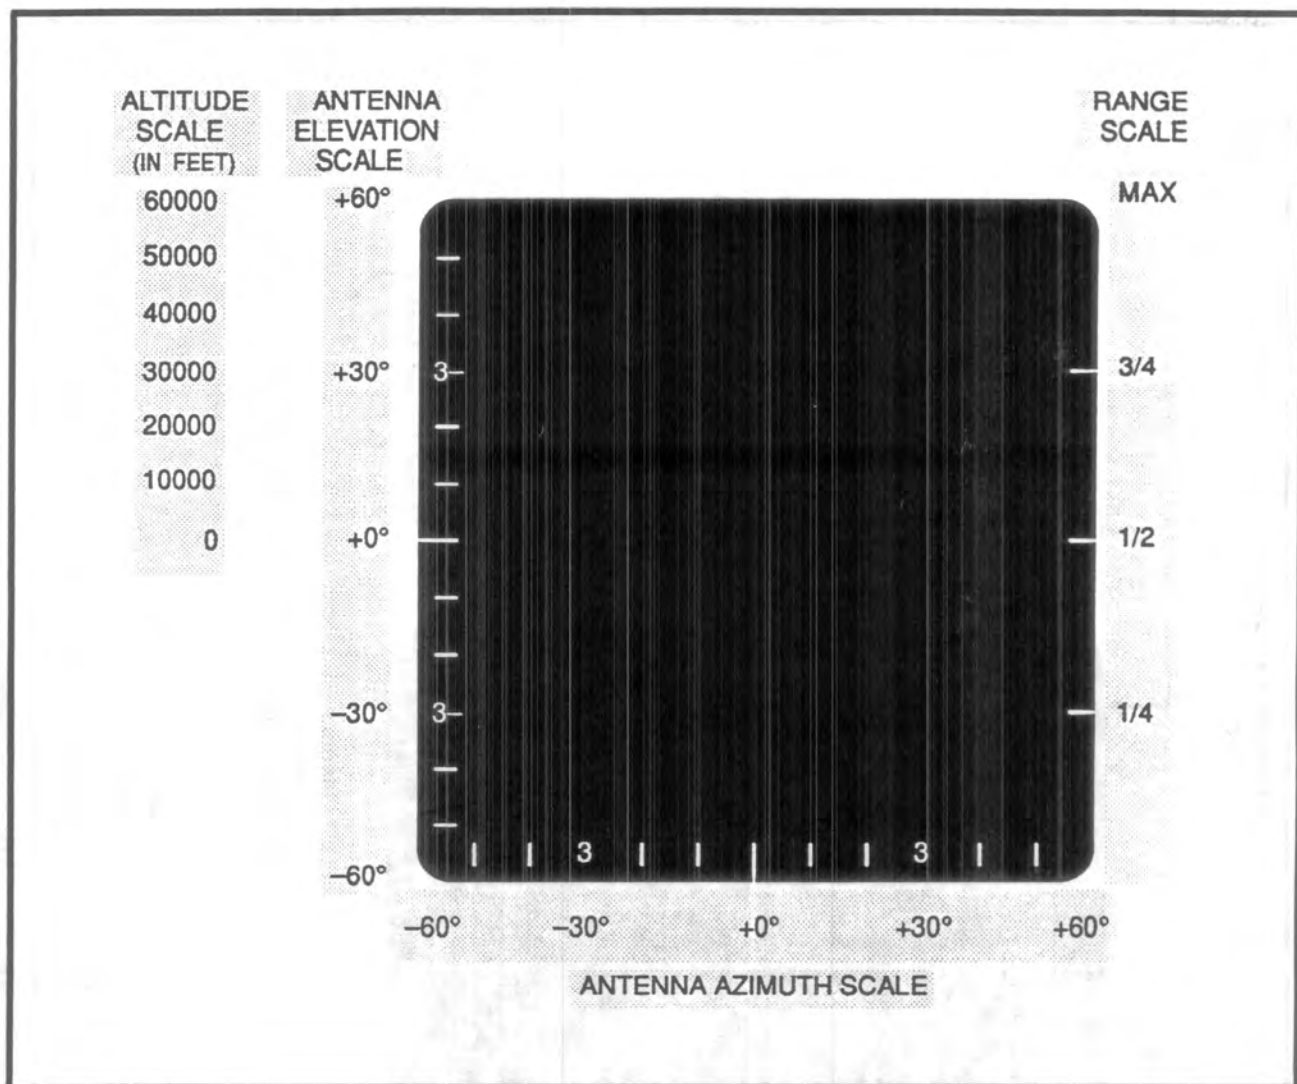
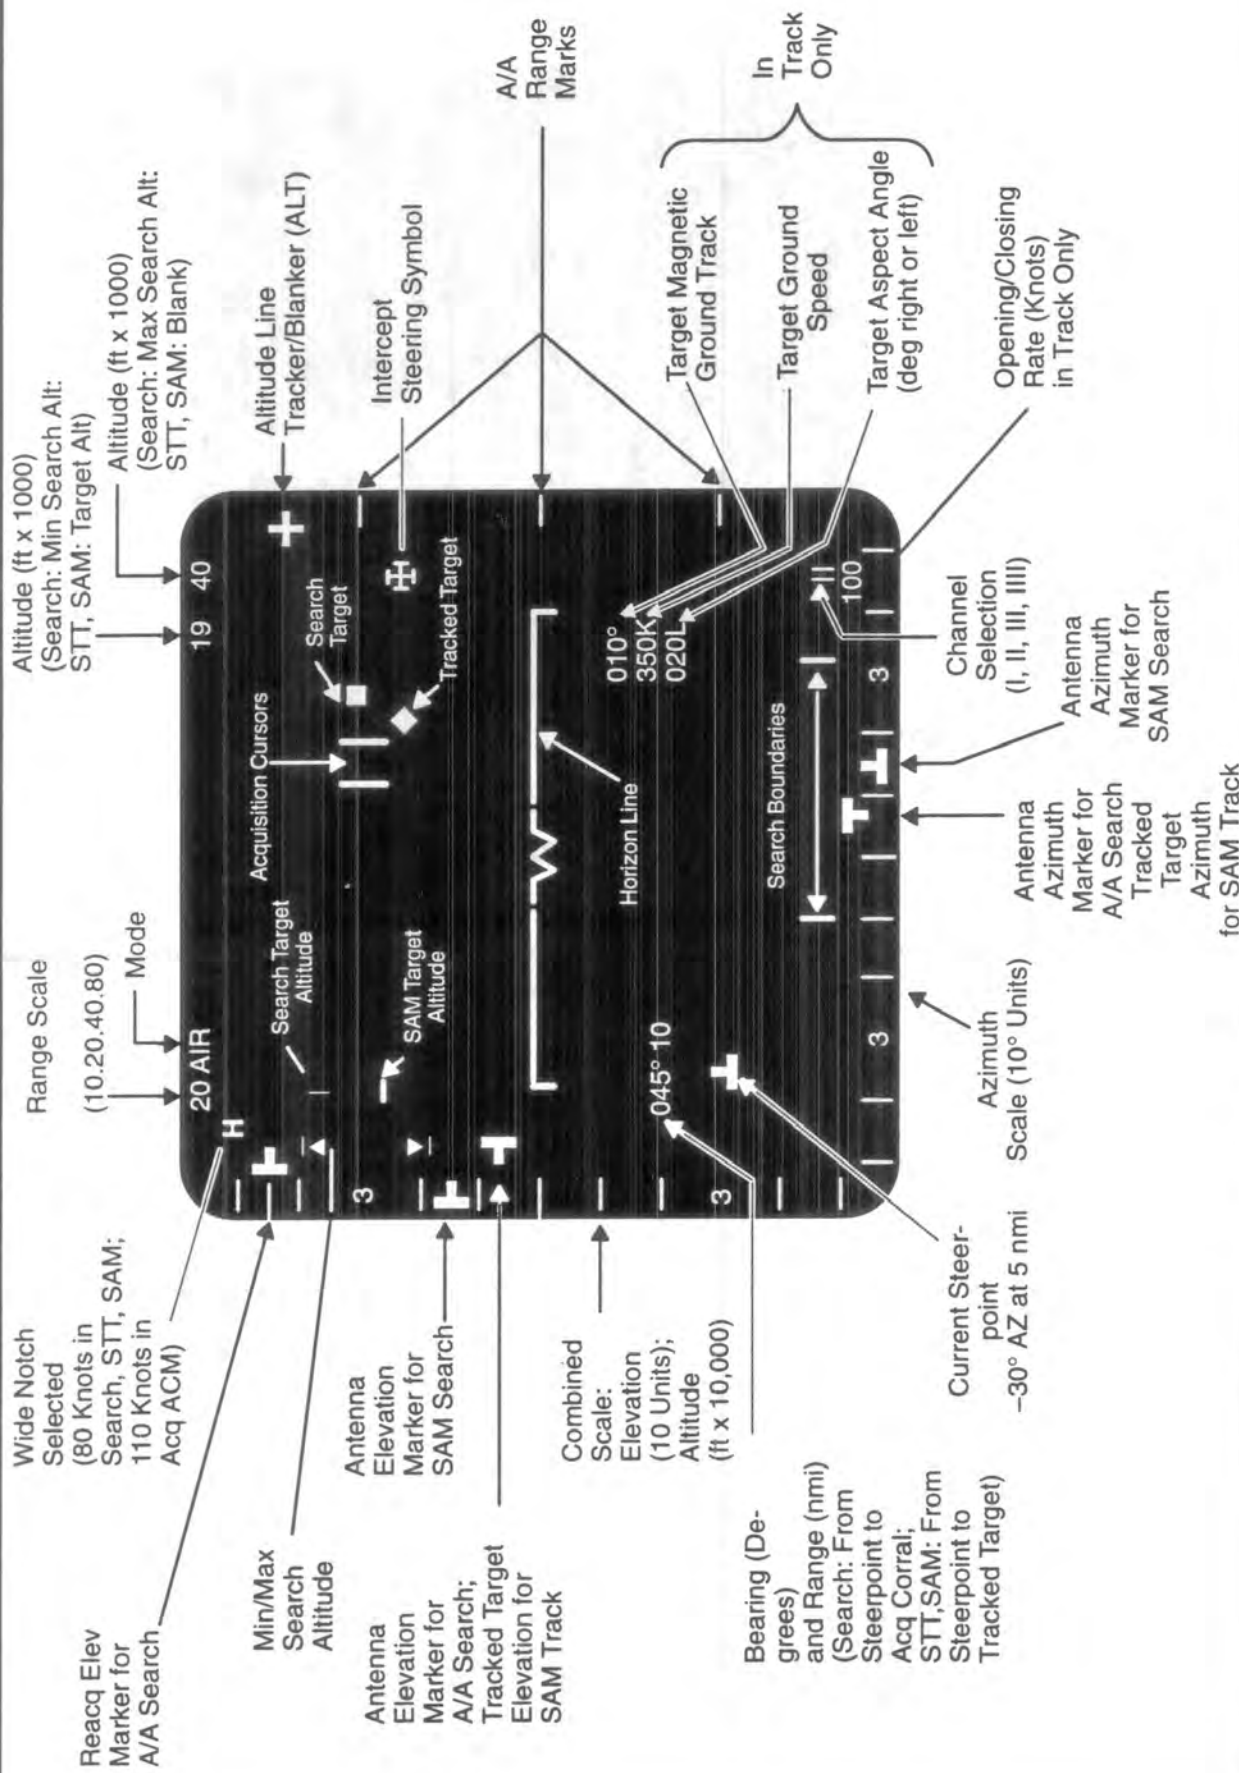
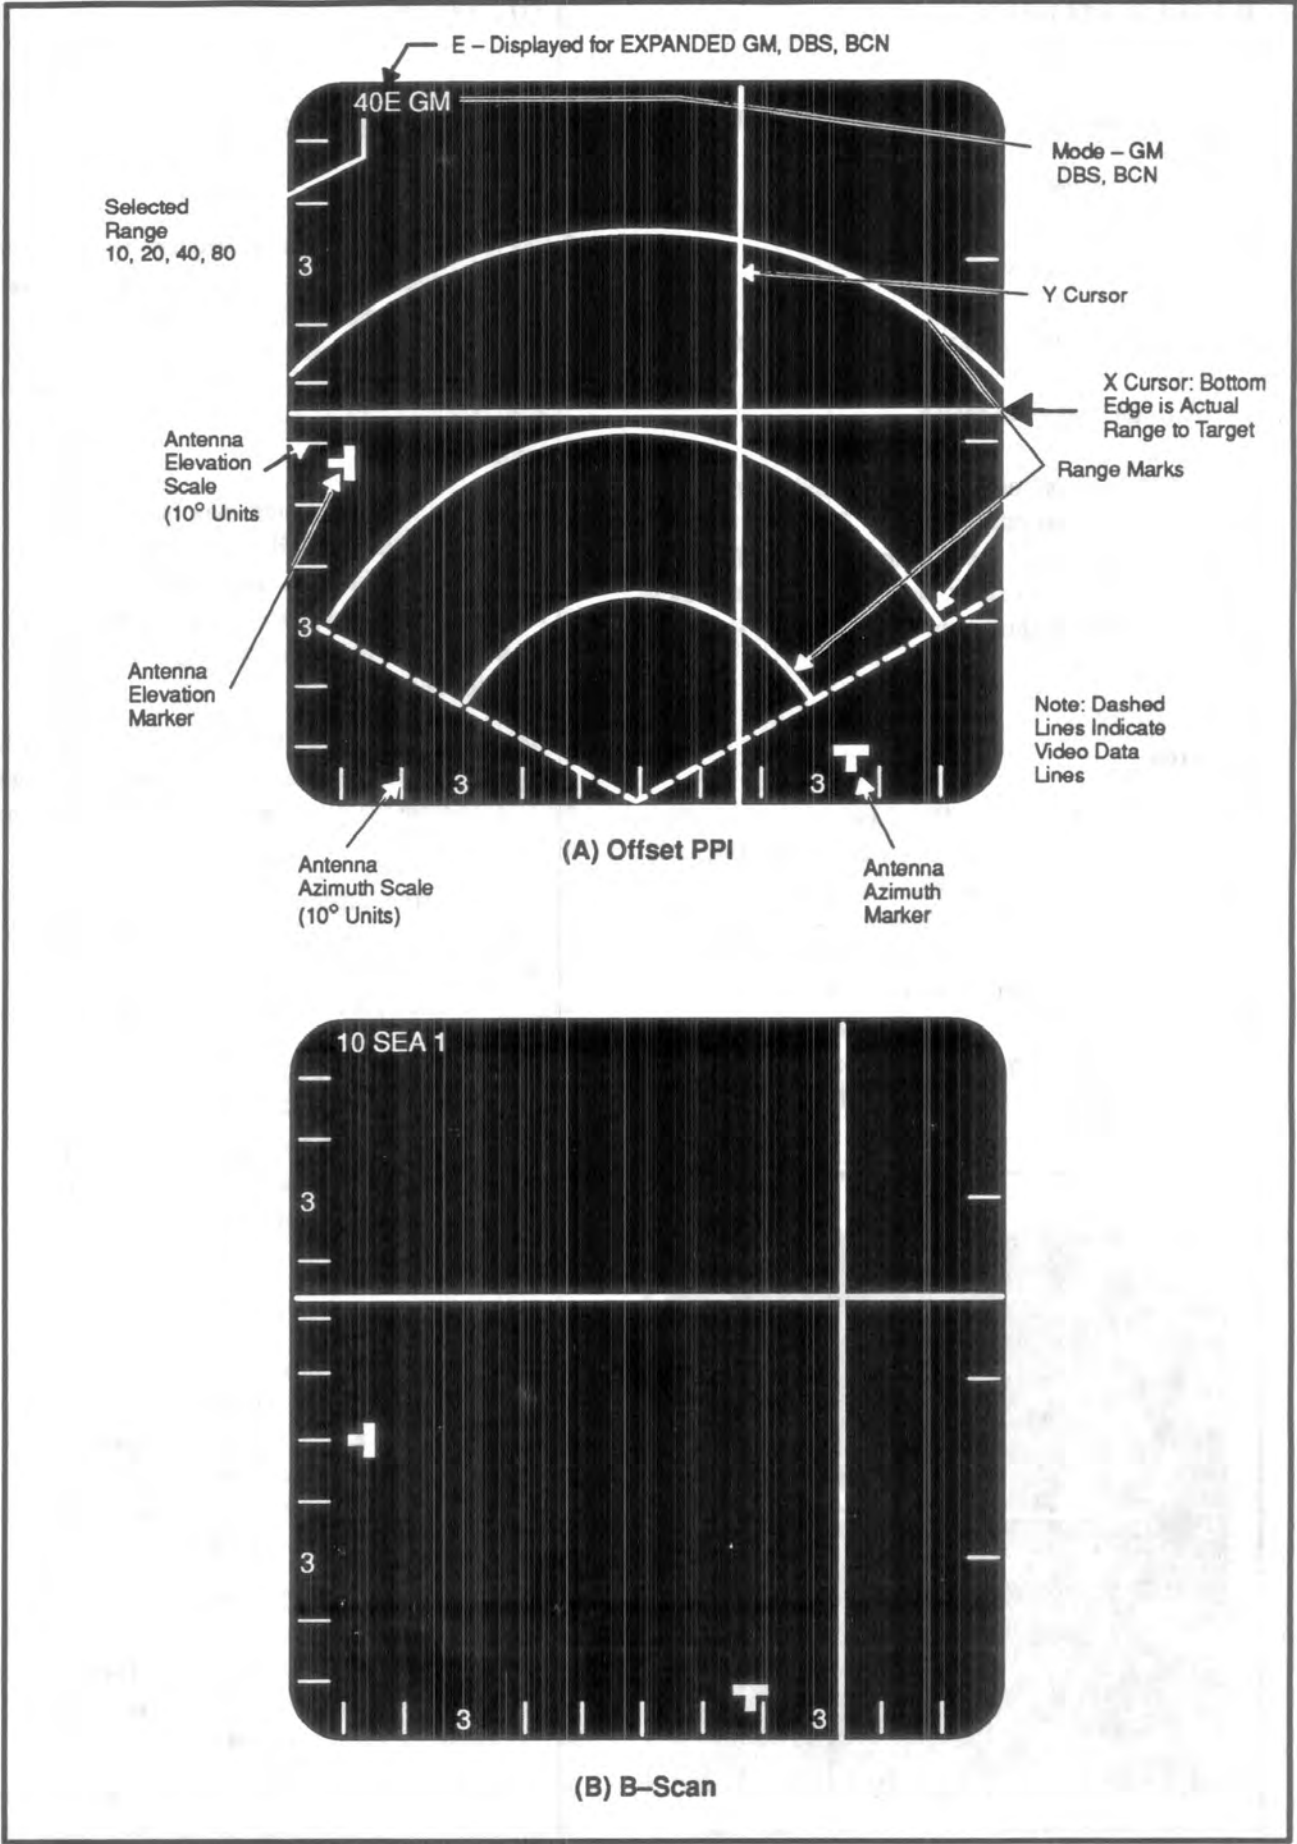

Figure 7-19 Air-to-Air Mode Scales
Figure 7-20 Air-to-Air Display Unit Symbolology
Figure 7-21 Air-to-Ground Display Unit Symbology
7.191 Radar data may be presented on either the right or left DU based on pilot selection. Radar parameters are also displayed on the HUD in ACM and SEA modes. Figure 7-19 shows the scales that are used on the displays. Figure 7-20 shows and explains all symbology used for all Air-to-Air modes. Figure 7-21 shows the basic Air-to-Ground display symbology.